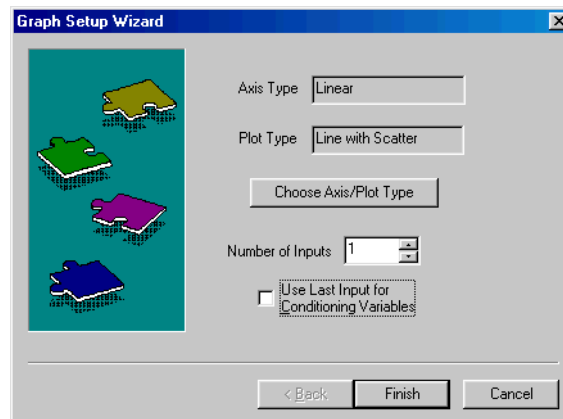

Figure 10.16: *The Graph Setup Wizard.*
3. Select **S-PLUS Graph** and then click **Next** to start the **Graph Setup Wizard**, as shown in Figure 10.16.